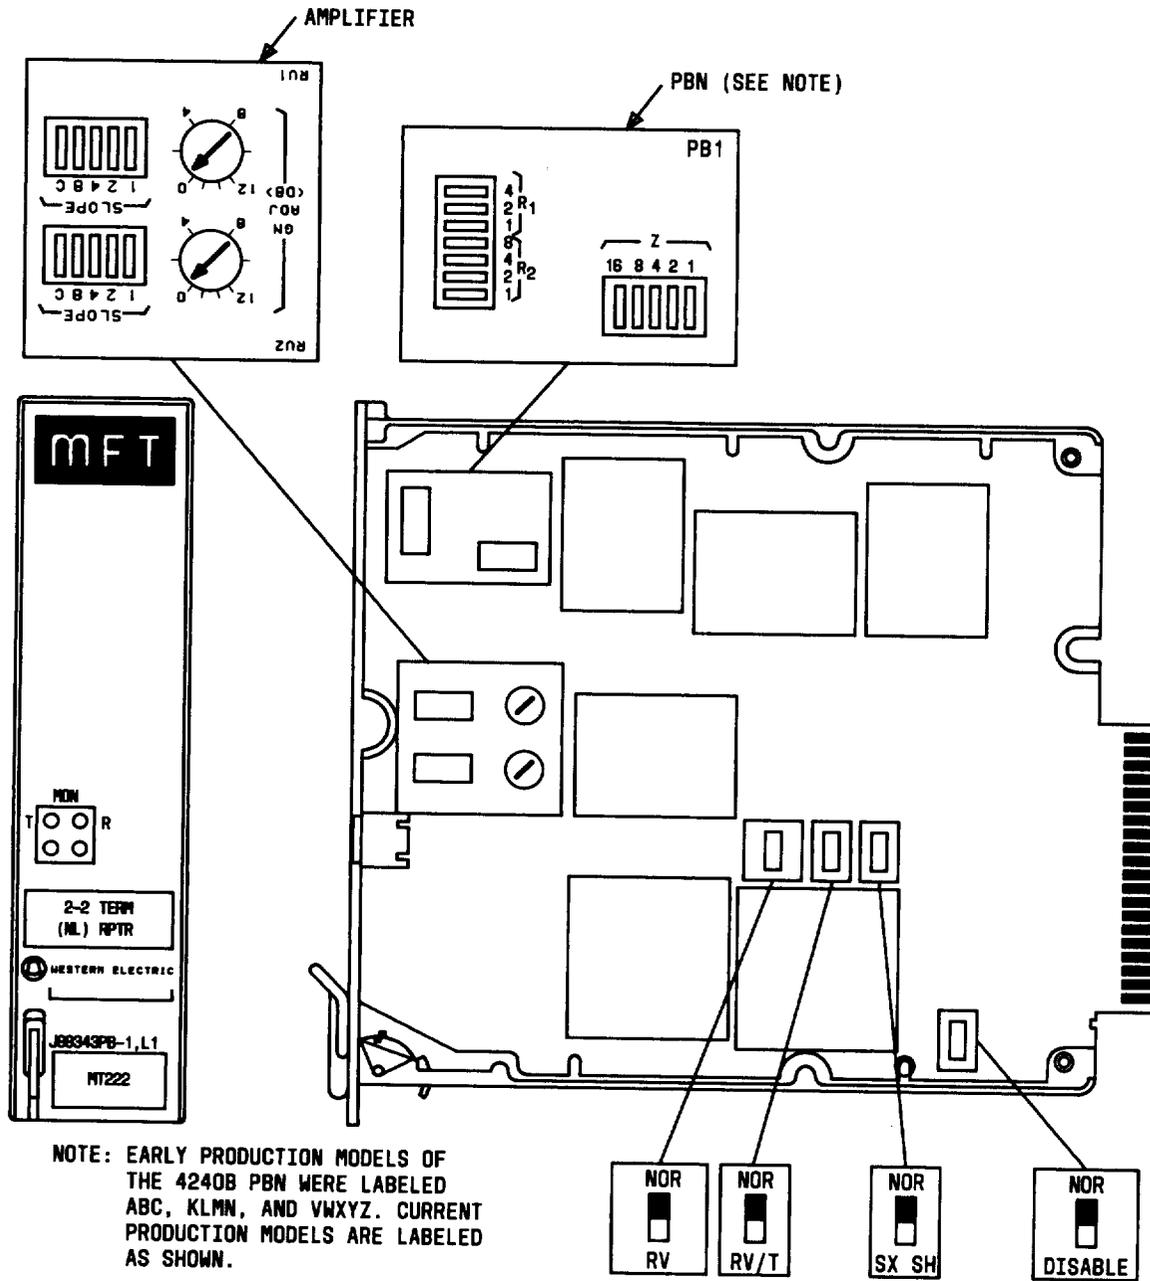

Fig. 1—Component Layout—J99343PB, L1
1.03 The J99343PB (L1, L2 and L3) 2-2 terminal repeaters, shown in Fig. 1, 2, and 3, respectively,
2.02 Figures 1 through 3 show the location of the individual unit controls. These controls must be set properly prior to the installation of these units. The settings are determined by circuit applications